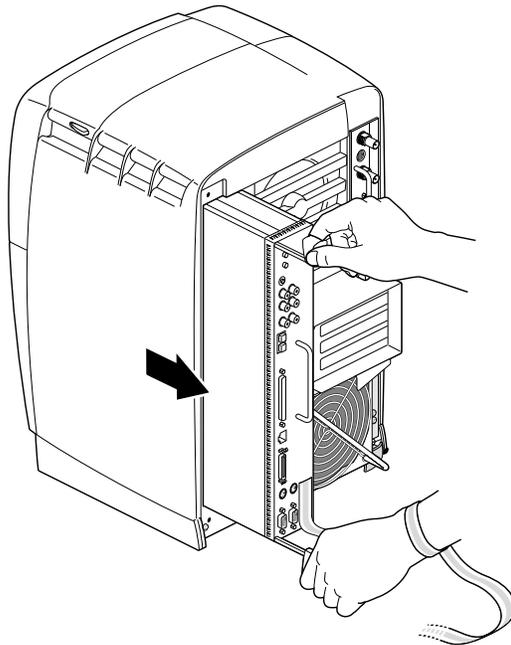

Figure 2-6 Releasing the System Module from the Frontplane
2. Pull both sliding handles simultaneously until they are completely extended, as shown in Figure 2-6.